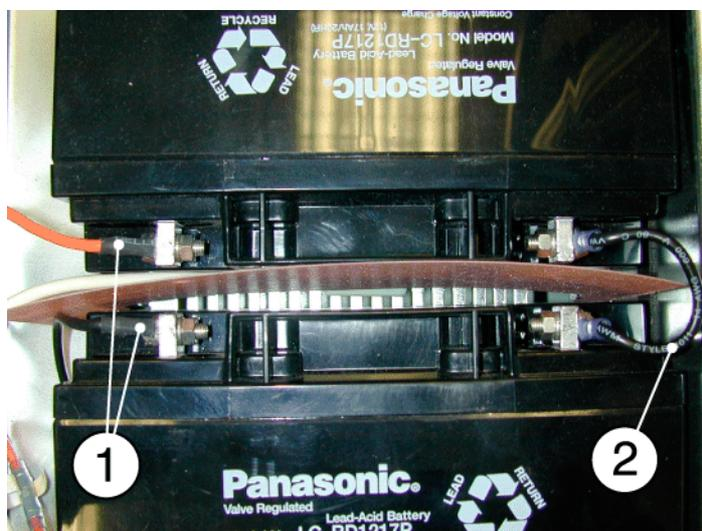

Figure 25 Connecting the rechargeable batteries
4. Disconnect the connecting cables (Figure 25/2).
5. Unscrew the leads (Figure 25/1) and remove the rechargeable batteries.